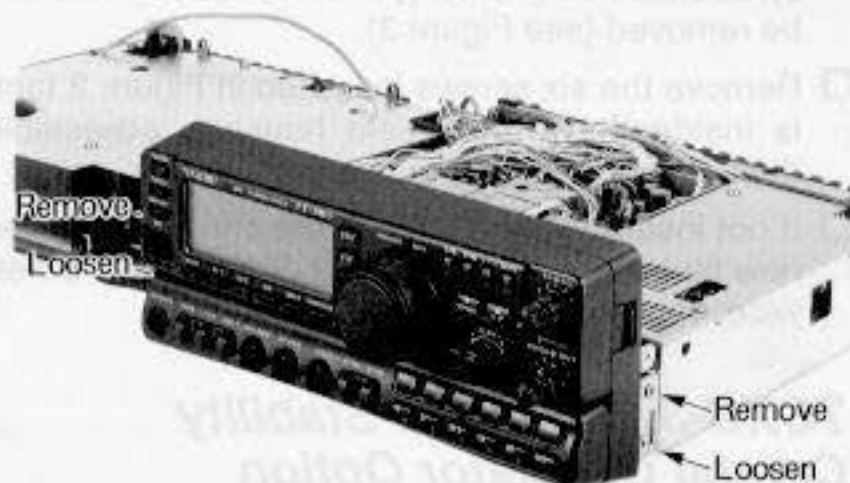

Figure 7: Front Panel Screws
- Remove the seven screws shown in Figure 6 (note that one is next to the DVS-2 jack on the rear panel), and also remove the upper one of the two screws on either side of the front panel (Figure 7) and loosen the lower one (on each side), allowing the front panel to be folded forward so that the Local Unit can be lifted as shown in Figure 8 (next page).
- Replace the Local Unit board in the chassis, then reinstall the wiring harness in its tie-downs, ensuring no wires are pinched. Reconnect the cables removed from the board, and replace the six screws in the board and one in the rear panel (Figure 6), and the two on each side of the front panel (Figure 7).